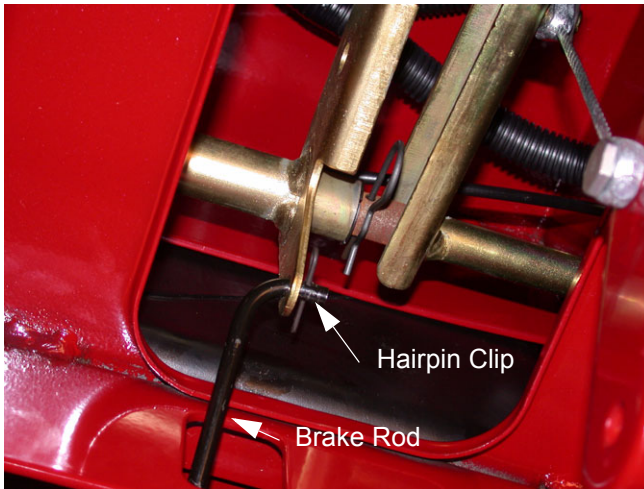

Figure 15.9
- 15.9. Remove the hairpin clip from the brake rod at the deck lift shaft. Remove the rod from the shaft bracket. Do this for both brake rods. See Figure 15.9.